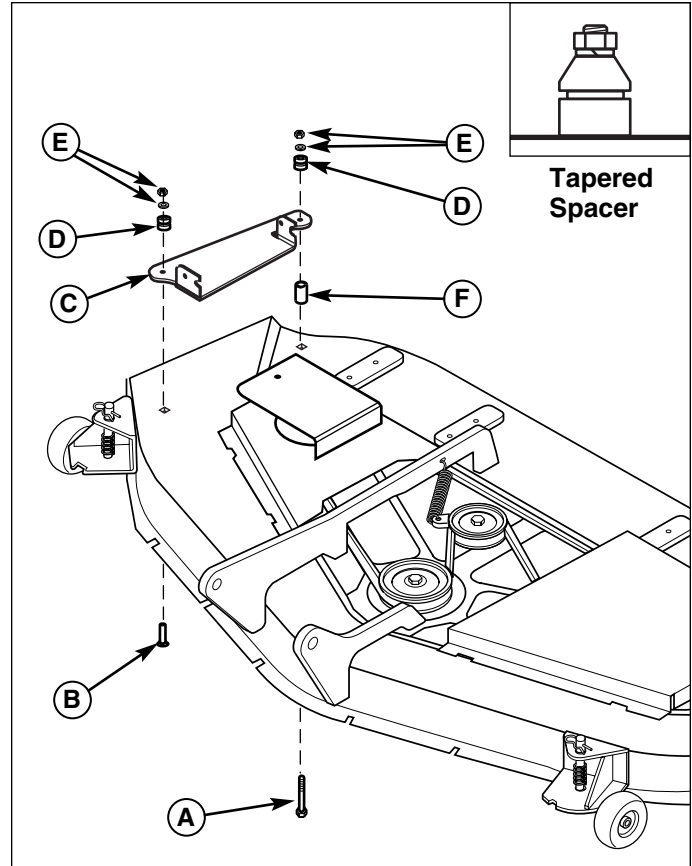

Figure 6. Install Deflector and Hinge Assembly
Secure the front of the hinge bracket using a new 1/4-20 x 1-1/4 carriage bolt (B, Figure 6), one tapered spacer (D), lockwasher, and nut (E).